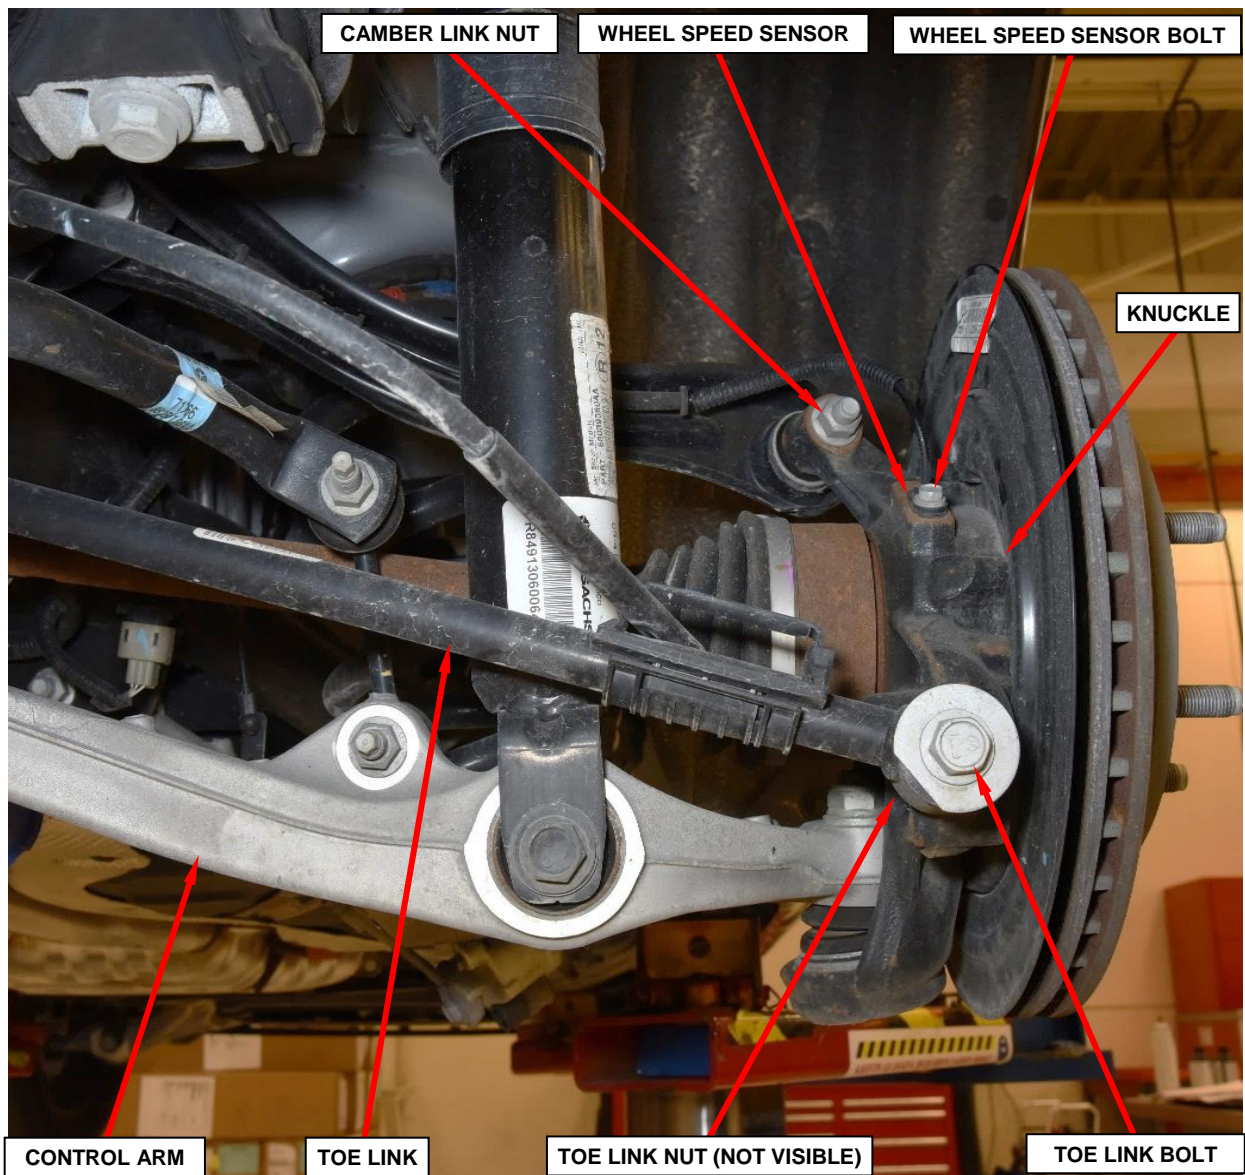

Figure 5 – Rear Suspension Components and Wheel Speed Sensor
8. Remove and save the wheel speed sensor bolt (Figure 5).
9. Remove the wheel speed sensor from the knuckle (Figure 5).
10. Remove the nut and bolt securing the toe link to the knuckle. Save the bolt and discard the nut (Figure 5).
26. Install the toe link to the knuckle using the saved bolt and a **new** nut. **Do not** tighten the toe link fasteners at this time (Figure 5).
- Tighten the toe link fasteners to 108 N·m (79 Ft. Lbs.) (Figure 5).
29. Install the wheel speed sensor to the knuckle (Figure 5).
30. Install the wheel speed sensor bolt and tighten the bolt to 10.7 N·m (95 In. Lbs.) (Figure 5).